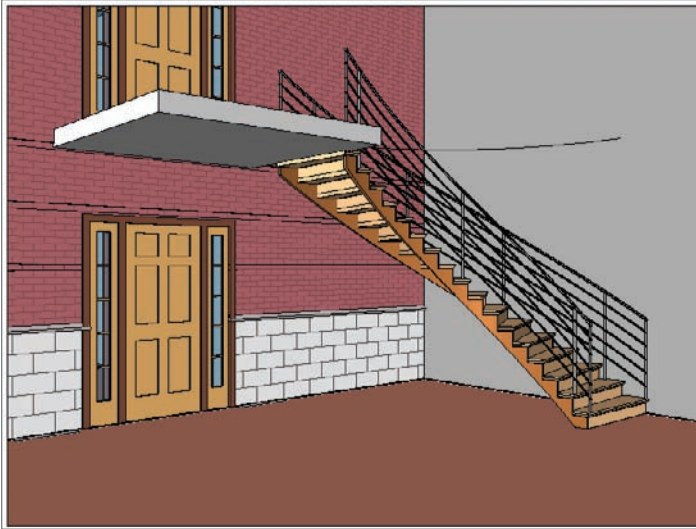

FIGURE 10.49 The almost completed stairs
3. Go to the East Entry from Corridor view. Does your stair and railing system look like Figure 10.49?